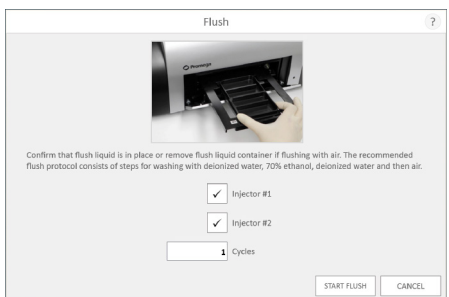

Figure 121. Injector Flush function.
4. Tap the **Start Flush** button (Figure 121).